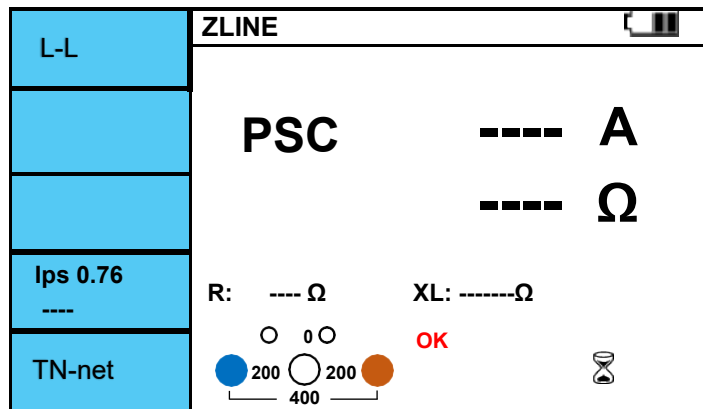

Figure 6.5.11 Z-line / L-L screen.
- IV. If there is no problem with the test lead connection, “OK” is displayed as shown in Figure 6.5.11.